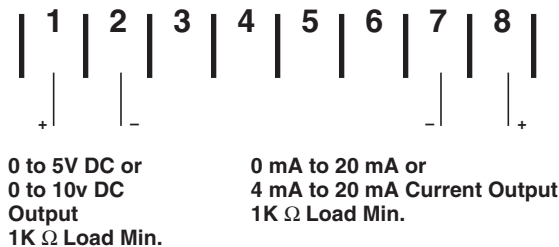

Figure 11:
2. Feed wire through hole in chassis bottom labeled "option." See **Figure 11**.
4. Connect wires to voltage (0-5V or 0-10V) or current (0-20 mA or 4-20 mA) output. See **Figure 11**.